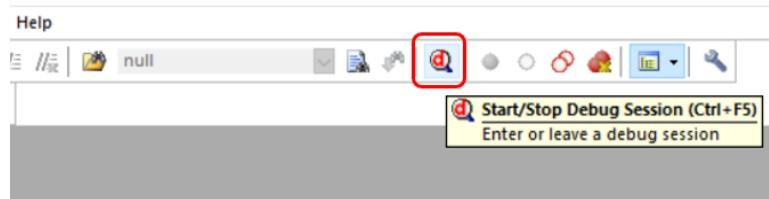

Figure 8.20: Keil IDE: Debug Button
2. Press the “debug” button to bring up the debugger interface (See Figure 8.20).
5. To exit the debugging session, press the “debug” button again (see Figure 8.20).